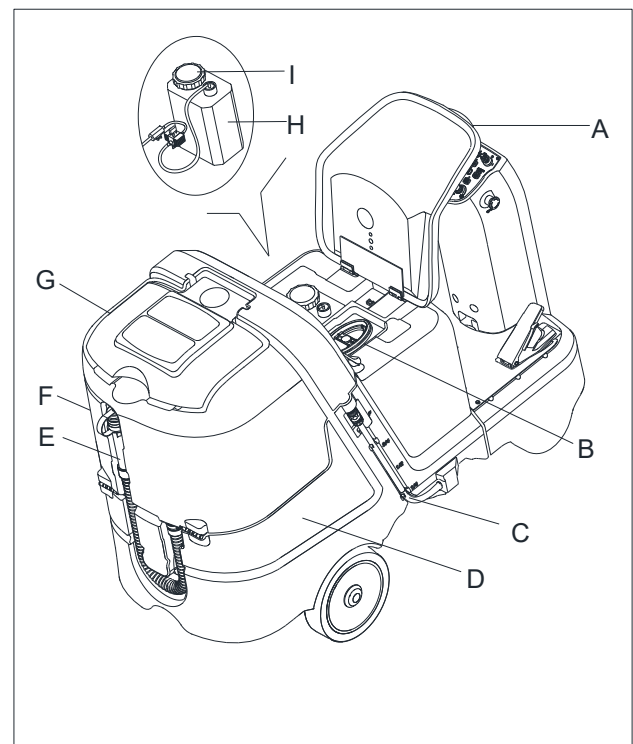

Figure 10
1. Turn over the seat (A, Figure 10).
2. (For machines without Chemical Mixing System) Use the front filler neck (B Figure 10) and the rear filler neck (C Figure 10) to fill the tank (D Figure 10) with a solution suitable for the work to be performed. Refill to the reference mark “F” of the level check hose (C Figure 10). Always follow the dilution instructions on the label of the chemical product used to prepare the solution. The solution temperature must not exceed + 104°F (+40°C).
3. (For machines with Chemical Mixing System) Fill the tank (D Figure 10) with clean water by using the filler neck (B Figure 10) and the rear filler neck (C Figure 10). Refill to the reference mark “F” of the level check hose (C Figure 10). The water temperature must not exceed + 104°F (+40°C).
1. Open the cover (G Figure 10) and check that the recovery tank (F Figure 10) is empty, otherwise empty it with the drain hose (E Figure 10).
- Carefully overturn the recovery tank (F, Figure 10).
- Open the cap (I Figure 10).
- Replace or fill the jug (H Figure 10) with any standard gallon container of detergent suitable for the work to be performed (highly concentrated detergents). Do not fill the detergent tank completely, leave a few centimeters from the edge.
To install a new jug container, determine the cap size and if it is the smaller cap, remove the reducing adapter from the hose cap (I Figure 10). Insert the suction tube into the jug (H Figure 10). Pushdown firmly on the cap (I) and twist at the same time to put the cap back onto the jug (H Figure 10). In case of new system, system emptied for cleaning, etc., wait for the hoses to fill up, before starting the Chemical Mixing System.